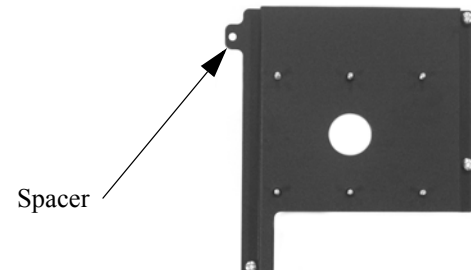

Figure 2. Install Spacers
4. Slide Nylon spacer between the remaining threaded insert of the projector and the hole in the mounting bracket (see Figure 2).